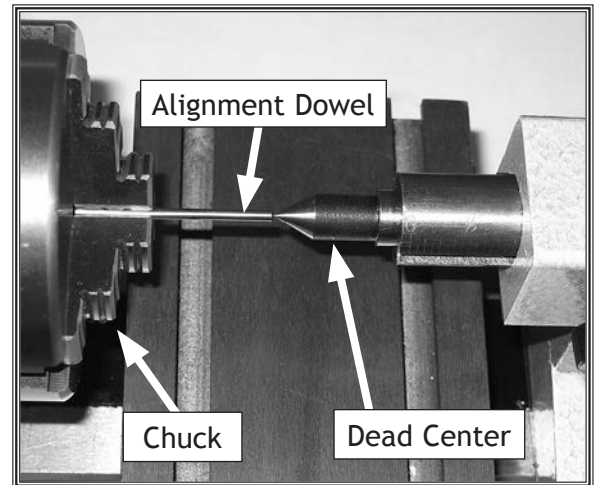

Figure 12. Alignment Dowel.
5. Slide the tailstock to the dowel end, and adjust the tailstock so the dead center is aligned with the center of the dowel (see Figure 12).